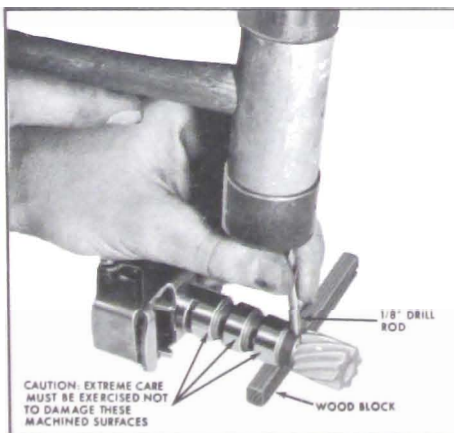

Figure 5-570
1. Drive out governor gear retaining split pin using small punch. See Figure 5-570.